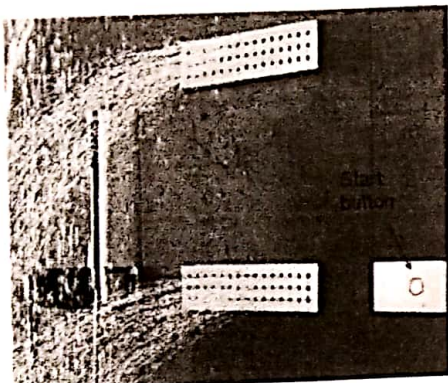

Figure 1
In a gym and fitness centre, there are some shower stalls like the one represented in Figure 1 that have to be automated to generate cycles of contrasting hot ( $48^{\circ}\text{C}$ ), warm ( $26^{\circ}\text{C}$ ) and cold ( $4^{\circ}\text{C}$ ) water sprays simply clicking a single start push button (SB). After clicking the SB, initially warm water flows for 50 s ( $H = C = '1'$ ), then hot water ( $H = '1'$ ,  $C = '0'$ ) for 10 s, and thirdly cold water ( $H = '0'$ ,  $C = '1'$ ) for 20 s, and this cycle is repeated one more time; finally the system goes idle ( $H = C = '0'$ ) to wait for another user service. During the operation the R\_LED turns on.